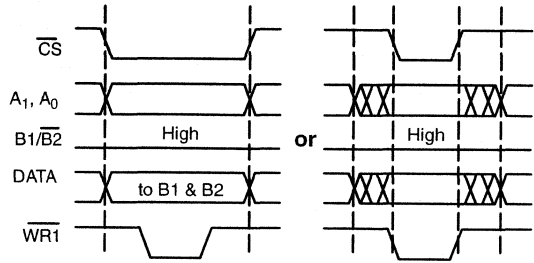

Figure 3a. 12 Bit Write Cycle
By keeping $B1/\overline{B2} = \text{high}$, a 12-bit bus has direct access to the 12 bits of the input latches. The condition $\overline{CS} = \overline{WR1} = 0$ loads the values contained in the data bus DB11-DB0 into the input latch addresses by A_1, A_0 (Figure 3a, Table 1.).
- 1) Timing diagrams show the inputs \overline{CS} , A_1 , A_0 , DB11-DB0 to be stable during the entire writing cycle. In reality all the above signals can change (Figure 3a) as long as they meet the timing conditions specified in the Electrical Characteristic Table.
- 2) Only 16-bit bus cycles are shown in the next few examples of interface timing. It is possible to generate an 8-bit interface timing by replacing a single 12-bit write cycle (Figure 3a) with a double 8-bit write cycles (Figure 3b). 8-bit applications should ground inputs DB3-DB0.